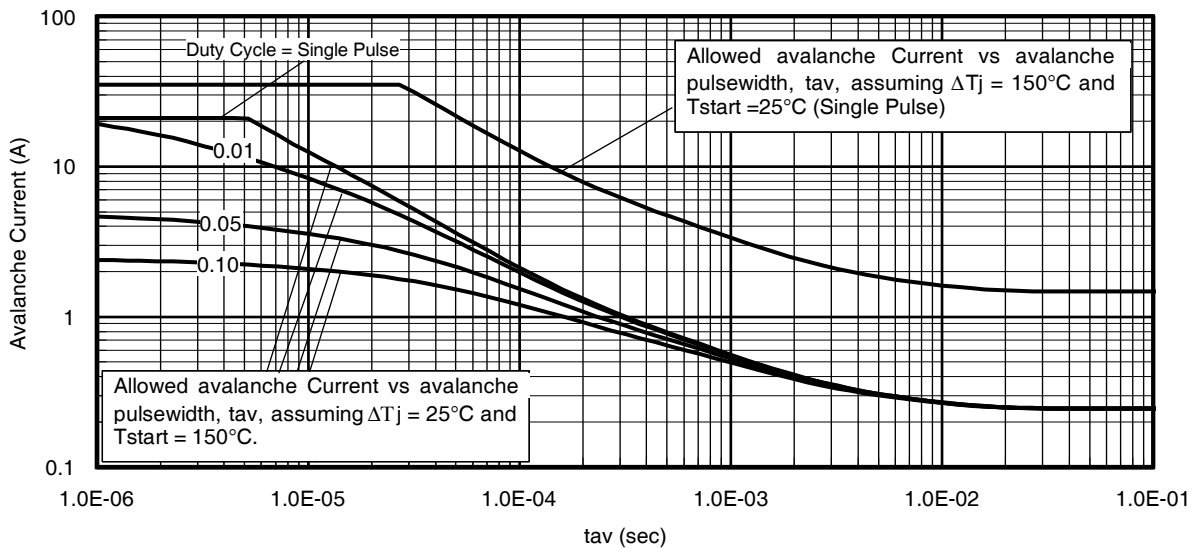

Fig 14. Typical Avalanche Current Vs. Pulsewidth
- ① Repetitive rating; pulse width limited by max. junction temperature.
- ② Starting T_J = 25°C, L = 0.51mH, R_G = 25Ω, I_{AS} = 21A.
- ③ Pulse width ≤ 400μs; duty cycle ≤ 2%.
- ④ R_θ is measured at T_J of approximately 90°C.
⑤ Limited by T_{Jmax}. See Figs. 14, 15, 17a, 17b for repetitive avalanche information
⑥ When mounted on 1" square PCB (FR-4 or G-10 Material). For recommended footprint and soldering techniques refer to application note #AN-994.
Notes on Repetitive Avalanche Curves, Figures 14, 15:
7. ΔT = Allowable rise in junction temperature, not to exceed T_{jmax} (assumed as 25°C in Figure 14, 15).